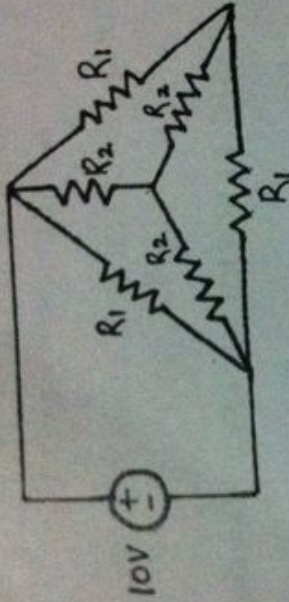

Fig. 2
2. Find the current drawn from the source and each resistor of Figure 2 using star-delta transformation. Take  $R_1 = 300 \Omega$  and  $R_2 = 100 \Omega$ .